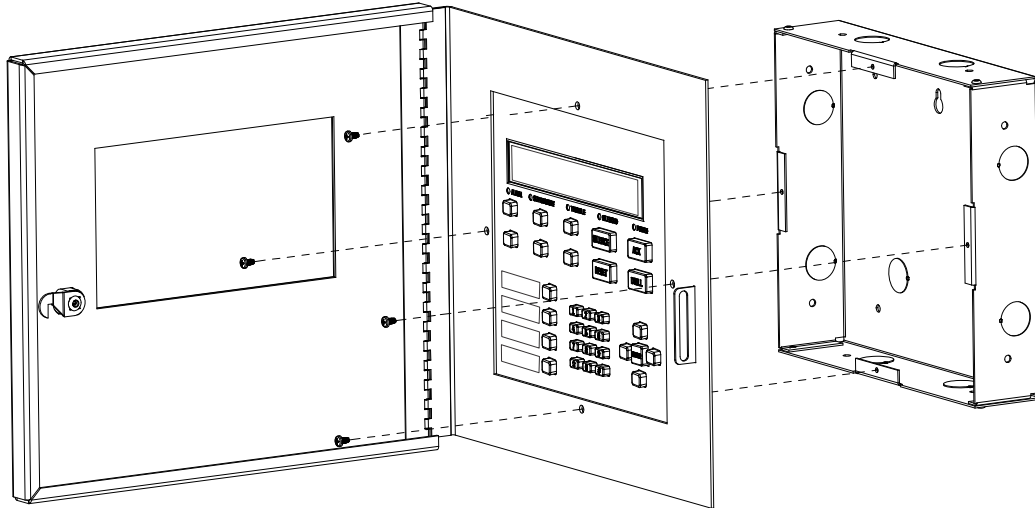

Figure 4.24 Attaching Annunciator / Door Assembly to Backbox
- Attach the door assembly to the backbox using the screws provided. Refer to Figure 4.24.